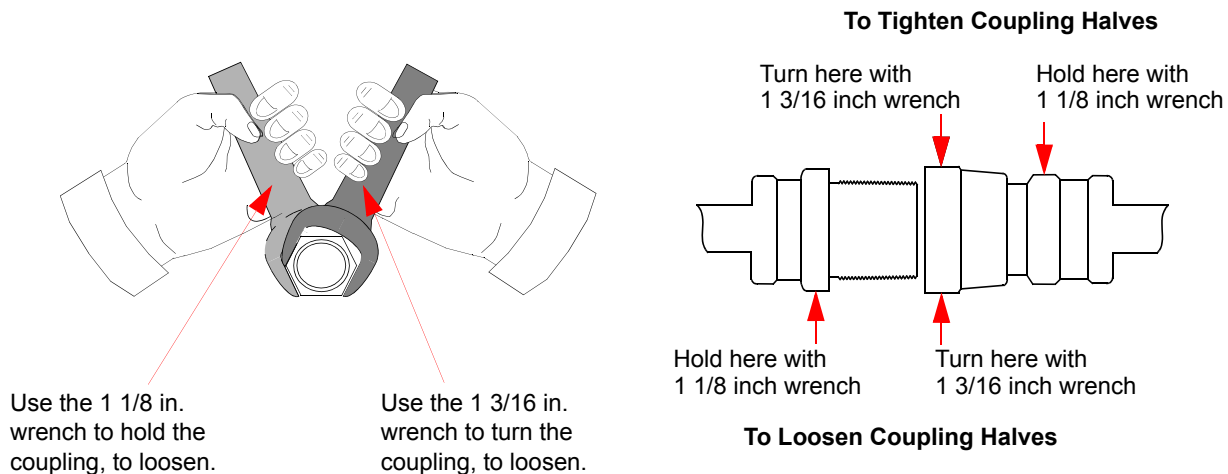

Figure 4-4: Connecting/Disconnecting Helium Flex Line Couplings
<p>CAUTION</p> <p>Equipment Damage</p> <p>To avoid damaging o-rings and creating a helium leak, follow the procedure in this section, including Figure 4-4 on page 4-12.</p>
3. Connect one end of the Helium Supply Line to the Helium Supply connector on the rear of the 8600 Compressor, and connect the other end to the Gas Supply connector on the 20HP Cryopump. Tighten the connection by using a 1 1/8-inch wrench to hold the coupling stationary and a 1 3/16-inch wrench to tighten the self-sealing coupling connector as shown in Figure 4-4.
3. Disconnect the two self-sealing coupling connectors quickly to minimize helium leakage by using a 1 1/8-inch wrench to hold the coupling stationary, and use a 1 3/16-inch wrench to loosen the self-sealing coupling connector as shown in Figure 4-4 on page 4-12.